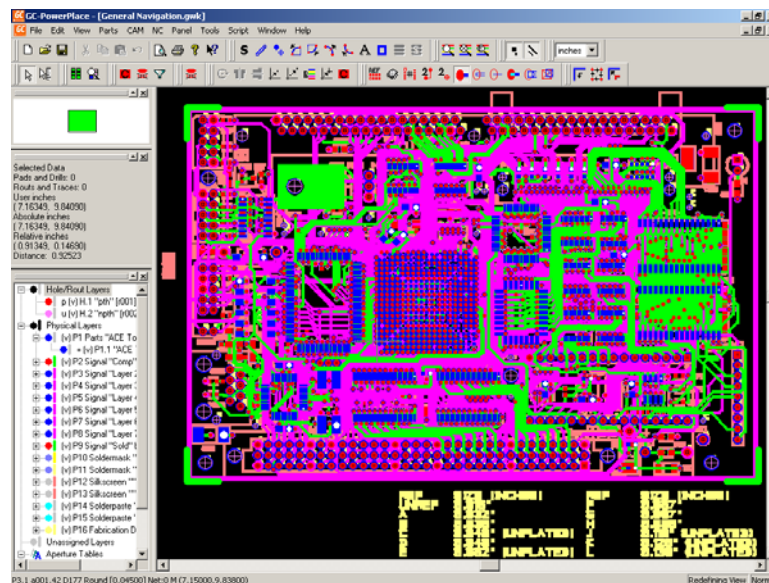

Figure 3: Zoom Extents
11. When you are finished exploring, choose **Zoom Extents** to mirror Figure 3